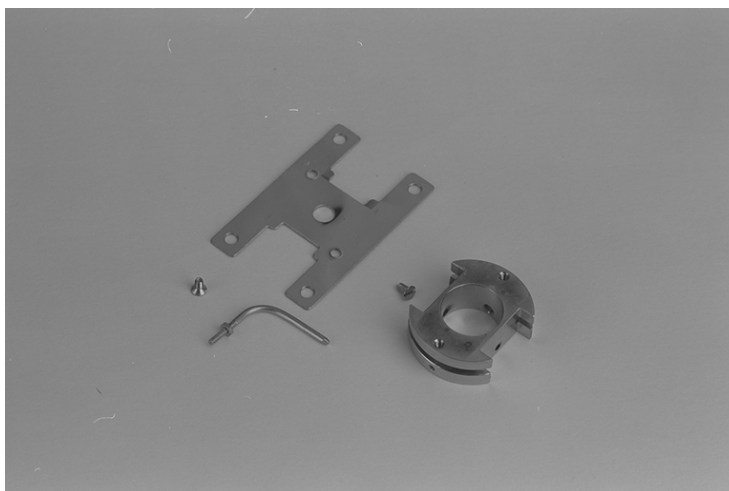

Figure 4-19. Dismantled lens assembly
12. Dismantle the ion lens assembly, noting the relative lens positions and taking care not to damage the ceramics or spacers (see Figure 4-19).